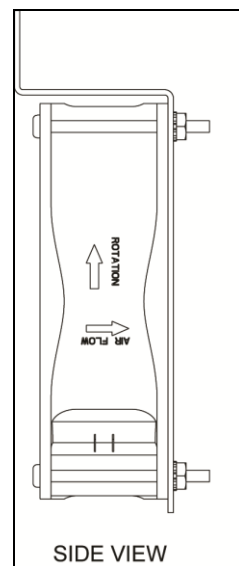

Figure 6: Fan Airflow
5. Perform steps in reverse order to reinstall. Verify the fan airflow is directed toward the face of the display. Refer to **Figure 6**.